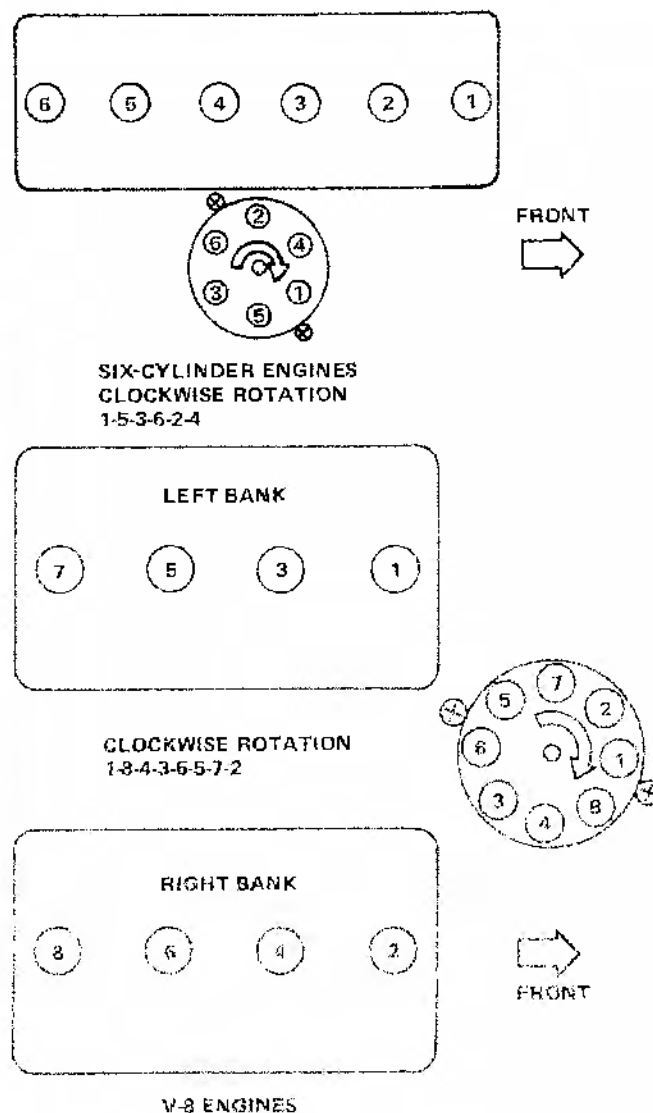

Fig. 3-55 Distributor Wiring Sequence and Firing Order
(5) Mesh distributor drive gear with camshaft mating drive gear in such a position that rotor points to the (No. 1 cylinder) terminal of distributor cap.
**NOTE:** If spark plug wires have been removed from the distributor cap, refer to figure 3-55 for proper positioning.
(1) Remove instrument cluster. Do not disassemble cluster.
(2) Remove all bulbs.
**NOTE:** Refer to figures 3-55 for pin terminal identification.
(3) Connect test lamp or ohmmeter lead to correct pin plug terminal for circuit to be tested. Follow each circuit from pin to each uncoated position up to bulb of indicator in that circuit. Bulb should light or ohmmeter should read 0 resistance at these positions.
(4) Check all uncoated positions on opposite side of bulb or indicator circuit. Circuit must go to either a pin terminal or a grounding screw. Bulb should light or ohmmeter should read 0 resistance.
(5) Connect test lamp or ohmmeter lead to ground pin terminal and other lead to cluster metal case. Bulb should light or the ohmmeter should read 0 resistance. When bulb fails to light or ohmmeter reads resistance on any test, replace printed circuit.
(6) Check for shorting between circuits. With a lead connected to correct pin for circuit to be tested, move other lead to all other pin terminals in cluster. There should be no light or resistance indication between circuits.